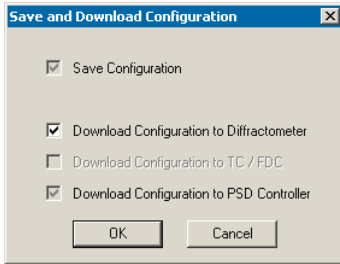

Figure 13.5 Download configuration window
7. Upon saving, the software intelligently decides whether it needs to download the configuration information to the diffractometer. A window appears showing whether the software will do this or not (in Figure 13.5, the configuration will not download). Accept the default and click **OK**.